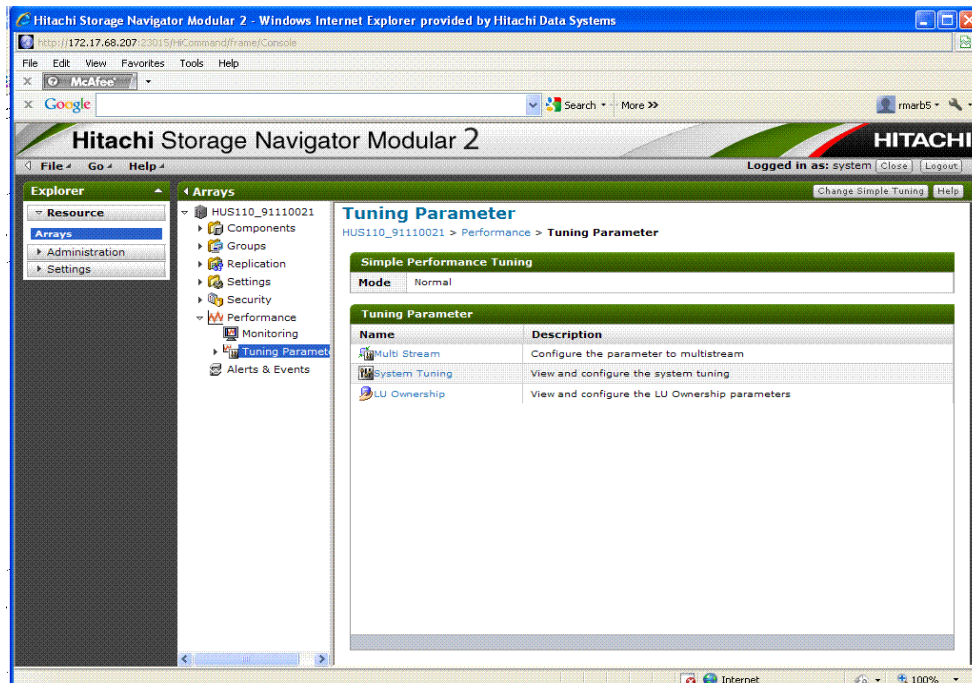

Figure 8-12: Tuning Parameters window
3. Click **Tuning Parameters**. HSNM2 displays the Tuning Parameters window as shown in Figure 8-12.